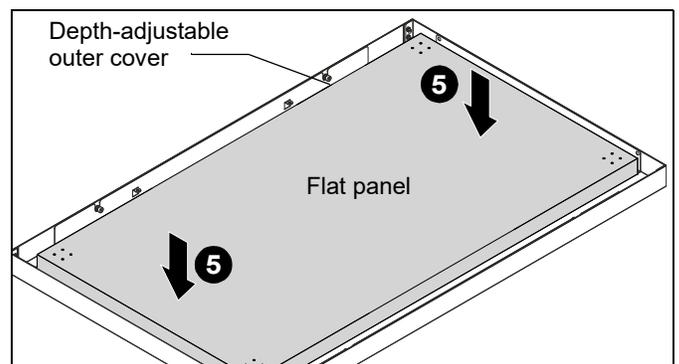

Figure 10
5. Carefully lay flat panel face down into the depth-adjustable outer cover. (See Figure 10)